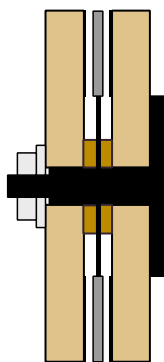
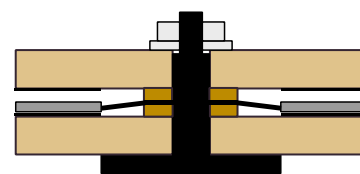

Figure 5: Sensing Element in "0g" Condition with Respect to Earth's Gravity
Figure 6: Sensing Element in "+1g" Condition with Respect to Earth's Gravity
- 3 Since Series 3700 Capacitive Accelerometers can measure static acceleration, their DC offset voltage will be affected by their positional alignment relative to the Earth's gravity. In other words, and as shown in Figure 5, when the sensor is mounted perpendicular with the Earth's surface, the offset will equal that as listed on the calibration certificate for "zero-g offset voltage." If the sensor is mounted parallel with the Earth's surface, as shown in Figure 6, the sensor will be experiencing 1 g of acceleration and the offset voltage will increase by the sensitivity of the accelerometer.